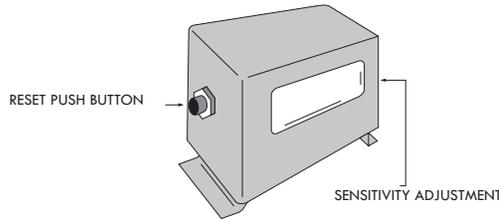

Figure A-51: Vibration switch detail
- Press the reset push button to engage the magnetic latch. To be sure the magnetic latch has engaged, observe latch through the window on the Vibration switch (see Figure A-51).